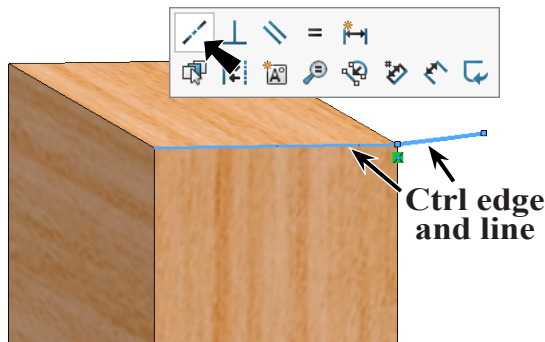

Fig. 3
Step 9. **Ctrl click the outside top edge of leg body and line** to select both. Release Ctrl key and click **Make Collinear**  on the context toolbar, Fig. 3.